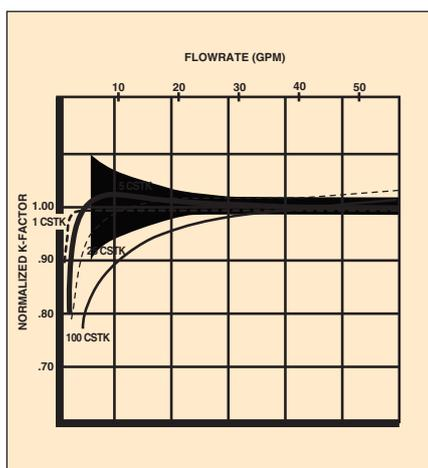

Figure 3: Viscosity effects on 2-inch turbine. Shading denotes error envelope of  $\pm 1\%$  full scale
**2) Accept a lesser accuracy:** Due to the cost advantages of using a turbine flowmeter over other flowmetering types, turbine flowmeters are often used at viscosities that introduce some loss in accuracy and some loss in flow range. A flowmeter may be considered for an application even if its accuracy is only  $\pm 1\%$  of full scale instead of the standard  $\pm 0.5\%$  of reading which can be achieved on low viscosity fluids. Figure 3 shows the allowable error band of  $\pm 1\%$  of F.S. as a frame of reference. It is therefore often possible to provide a standard turbine meter for a viscous fluid application, so long as the user can accept a smaller operating range and/or a decreased accuracy. However, no general guidelines can be laid out, since accuracy, range, and viscosity vary with each application and each turbine meter size. Feel free to give us a call at 800-872-9436 to discuss your application.